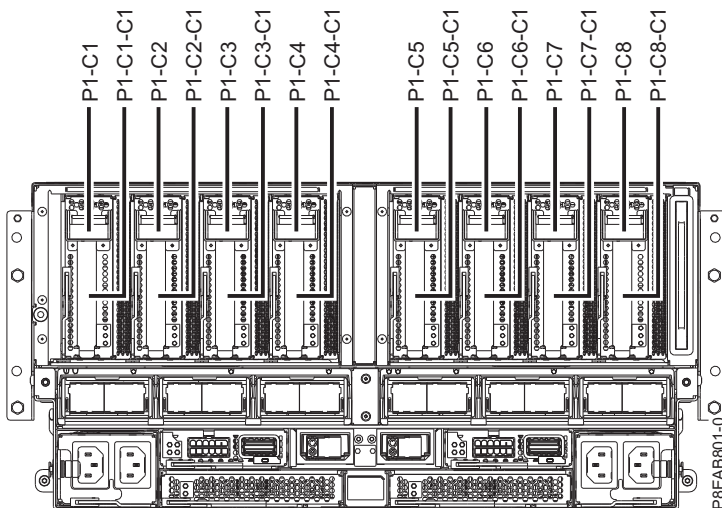

Figure 25. PCIe adapter slot locations in the system
1. Determine the slot in which you want to install a PCIe adapter. The PCIe adapter slots are at the rear of a system. Figure 25 shows the PCIe adapter location codes.